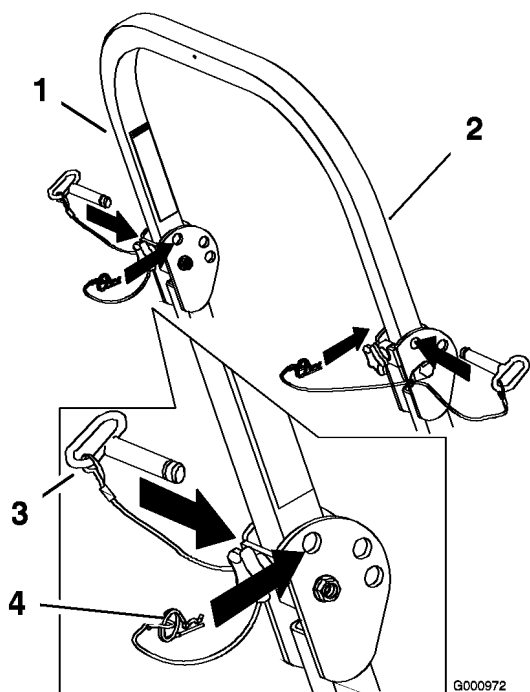

Figure 6
2. Remove the hairpin cotter pins and remove the two pins (Figure 6).
4. Install the two pins and secure them with the hairpin cotter pins (Figure 6).
5. To raise the roll bar, remove the hairpin cotter pins and remove the two pins (Figure 6).
6. Raise the roll bar to the upright position and install the two pins and secure them with the hairpin cotter pins (Figure 6).